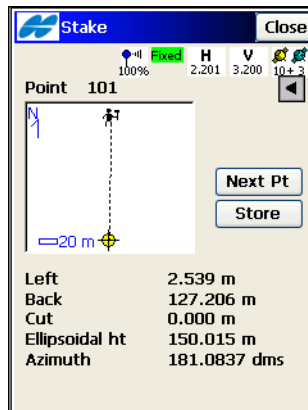

Figure 9-7. Stakeout Map
9. To open the map of the layout of the target and the current position, use the arrow button in the lower-left corner of the screen (Figure 9-7).